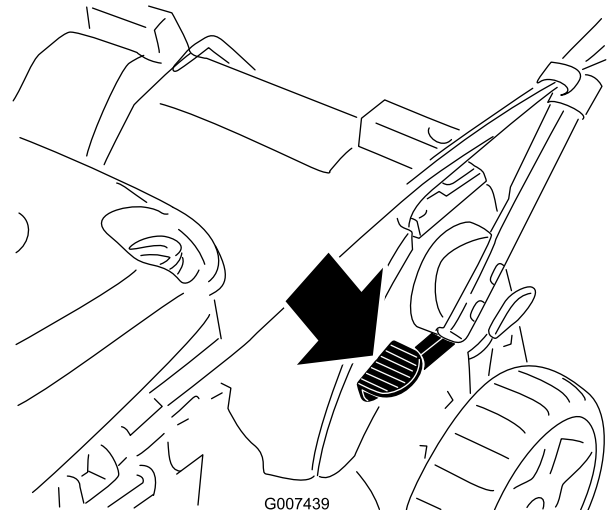

Figure 57
1. Step on the foot pedal and hold it down (Figure 57).